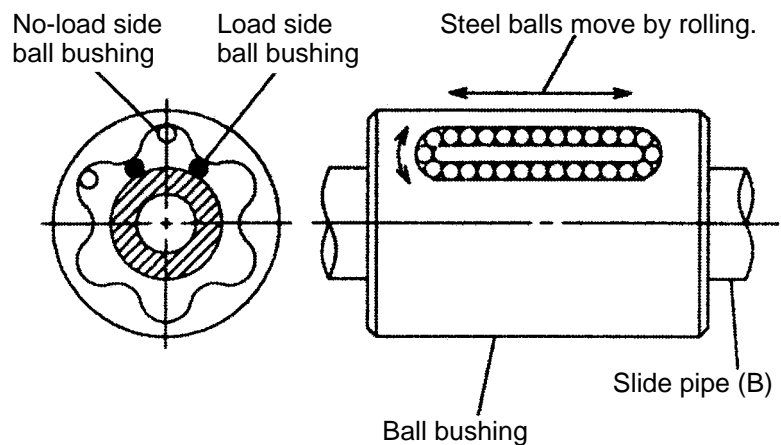

Fig. 53
(1) Structure of the Ball Bushing
The ball bushing is commonly called a linear ball bearing. Inside the bearing is elongated guide grooves in which steel balls circulate and roll when a load is applied (as indicated by the arrow marks in Fig. 53). This type of device is widely used in automated machine tools. The advantage of the ball bushing is that its friction coefficient remains largely unchanged even when the load is increased, ensuring smooth sliding movement. In addition, slide pipe (B),